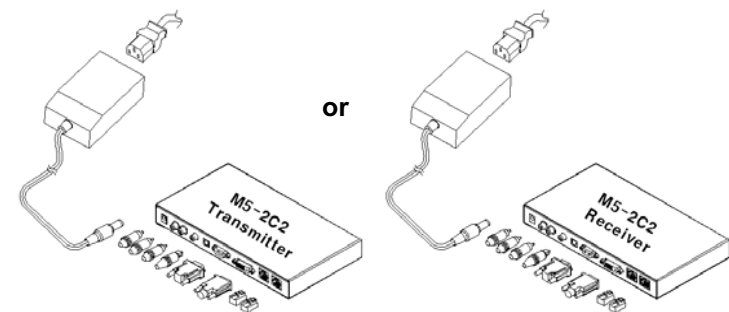

Figure 8 – Connection of AC/DC Power Adapter
| Figure 8 – Connection of AC/DC Power Adaptor | 1-5 |
Connect two(2) CAT5 or CAT6 cables to RJ45 receptacles of the Uplink and Downlink modules, as shown in Fig. 7. Opticis recommend solid shielded CAT6 cables. Carefully check the wiring sequence of CAT5 or CAT6 cable as Fig. 8 and ensure each RJ45 connector is fully engaged.